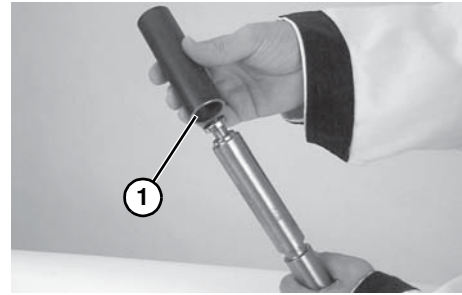

Figure 72
3. Slide sleeve (**Figure 72, item 1**) of tool (part # 456085) over bearing.